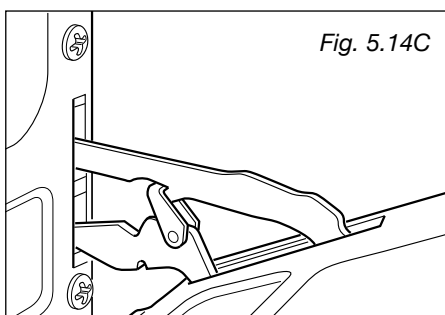

Fig. 5.14C
- Gently close the door and withdraw the lower hinge pins from their location (fig. 5.14C).